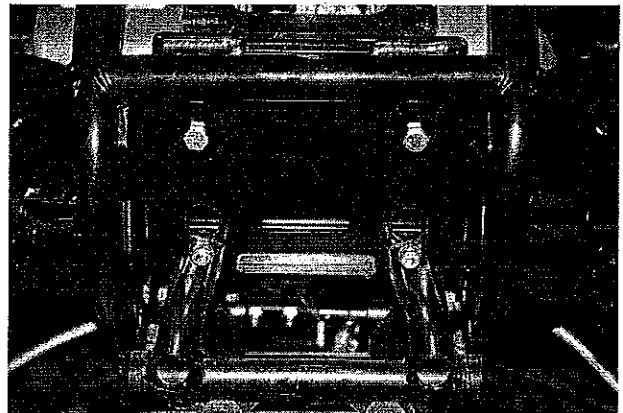

Figure 6
8. Bolt plow mount to vehicle frame using two rear fastener locations. See figure 6.